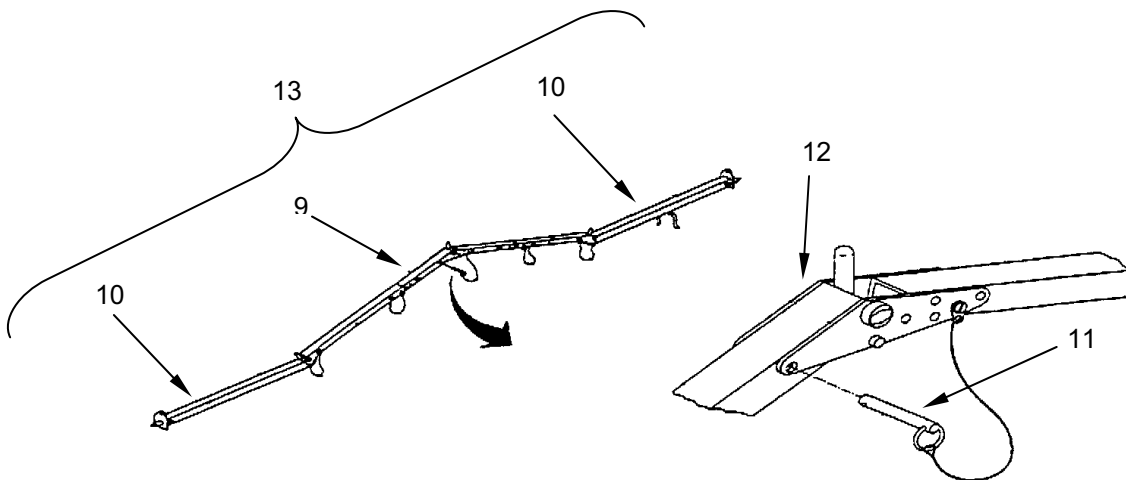

Figure 4. Arch Assembly.
1. Remove roof arch assembly (**Figure 4, Item 9**) and side arch assemblies (**Figure 4, Item 10**) from frame sections cover assembly bundle.
2. Ensure all quick release pins (**Figure 4, Item 11**) are disengaged.
3. Use the tent pin alignment tool to align holes in roof arch assembly (**Figure 4, Item 9**) with holes in ridge gusset plate (**Figure 4, Item 12**). Insert quick release pin (**Figure 4, Item 11**).
4. Move side arch assembly (**Figure 4, Item 10**) away from roof arch assembly (**Figure 4, Item 9**).
5. Connect roof arch assembly (**Figure 4, Item 9**) and side arch assemblies (**Figure 4, Item 10**) to form arch assembly (**Figure 4, Item 13**).
6. Lay arch assembly (**Figure 4, Item 13**) flat on the ground.